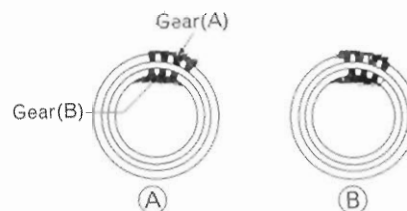

Fig. 26
When gear (A) and gear (B) are positioned at point (A) shown in Fig. 26, the gap is minimized, so magnetic resistance decreases. When they are positioned at (B), the gap is larger and magnetic resistance increases. Since the number of teeth of the gear is set at 68, magnetism varies 68 time per 1 turn of the rotor; this variation of magnetism is 412 Hz at the rated speed which is detected by the coil.